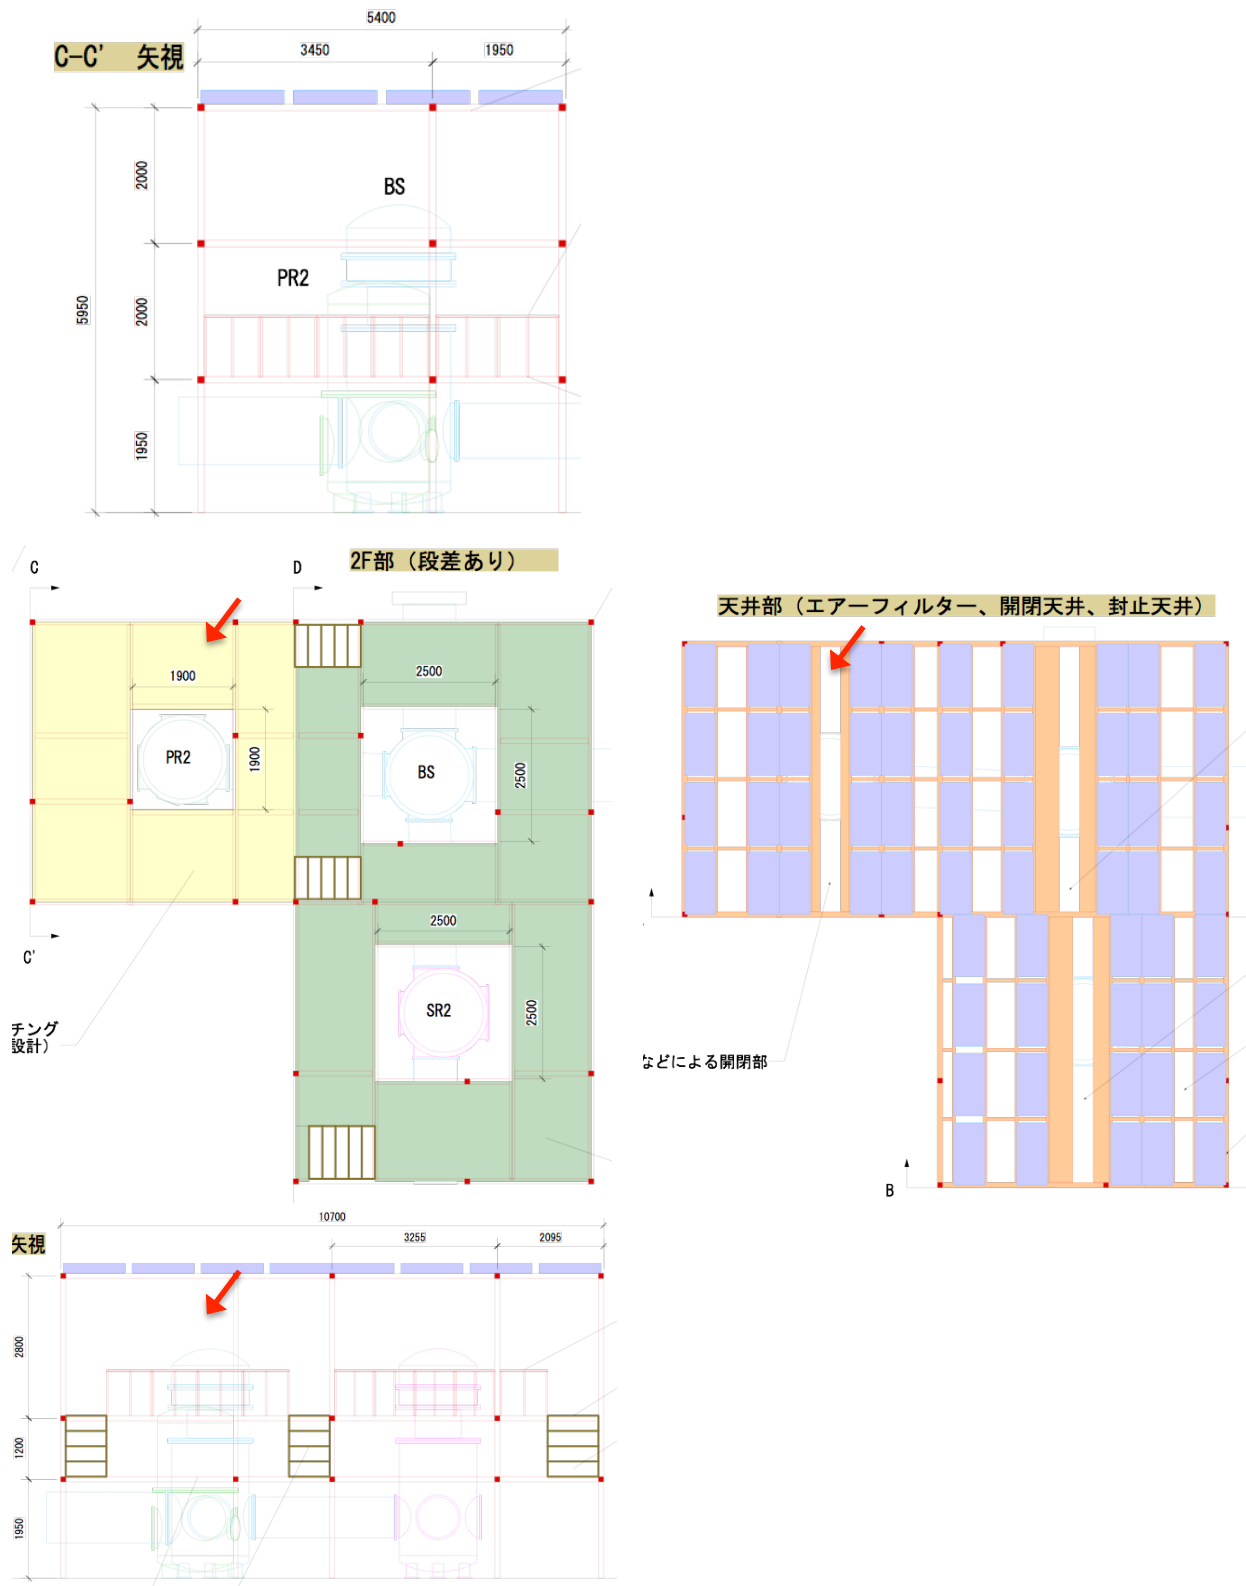
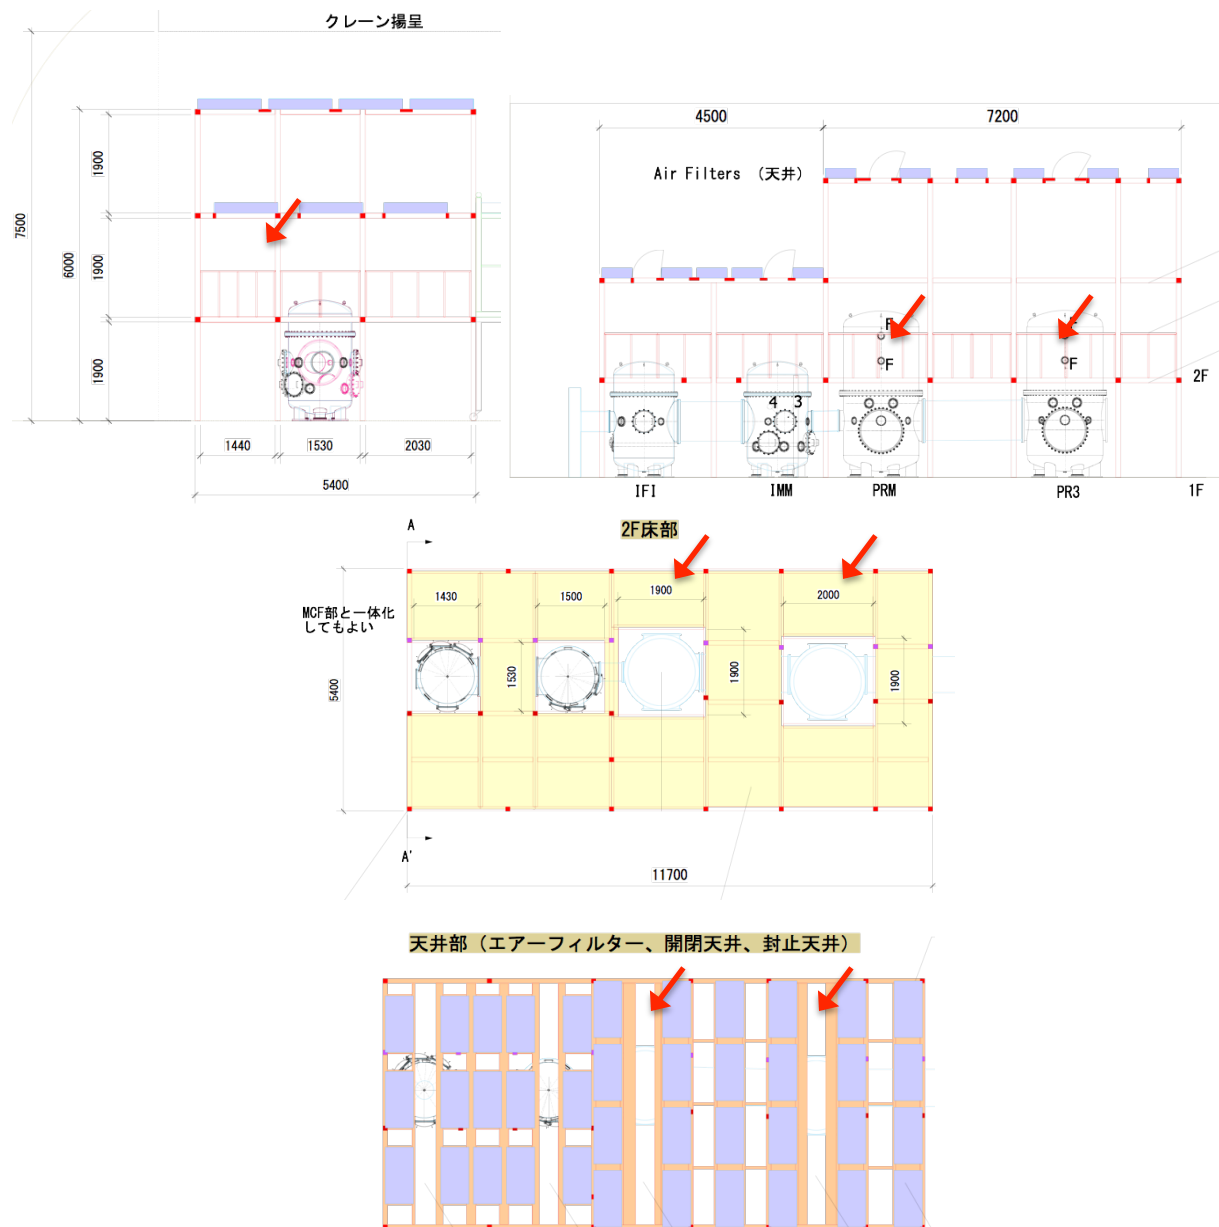

Figure 2 - Cleanbooth around PR2 (and BS/SR2) - work areas indicated with red arrows
Figure 3 - Cleanbooth around PR3/PRM (and IMM/IFI) - work areas indicated with red arrows
- The crane hook access slots in the cleanbooth ceiling only run one way (see Figure 2 and Figure 3) so the assembly has to be done at a position somewhere along that line.